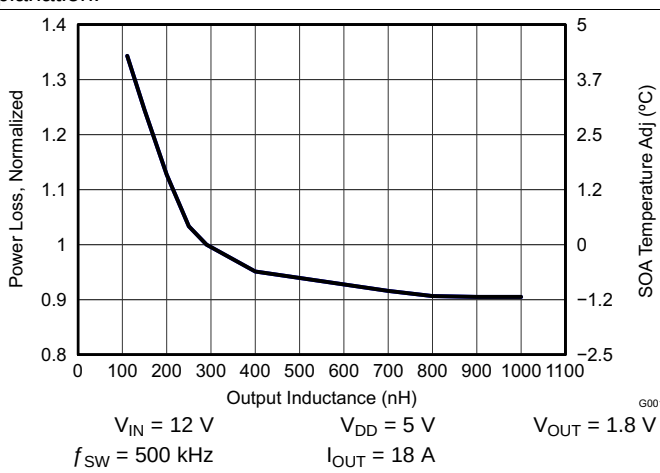

Figure 8. Normalized Power Loss vs Output Inductance
- Normalized power loss for output inductor ≈ 1.1 (Figure 8)
- SOA adjustment for output inductor $\approx 1.3^\circ\text{C}$ (Figure 8)